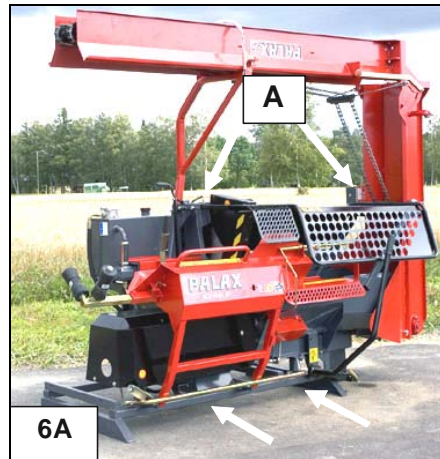

Fig. 6A. Lifting points of the machine
2.8 Lifting and transferring the machine, Figures 6A and 6B
- By lifting points A at the upper part of the machine. Fig. 6A.